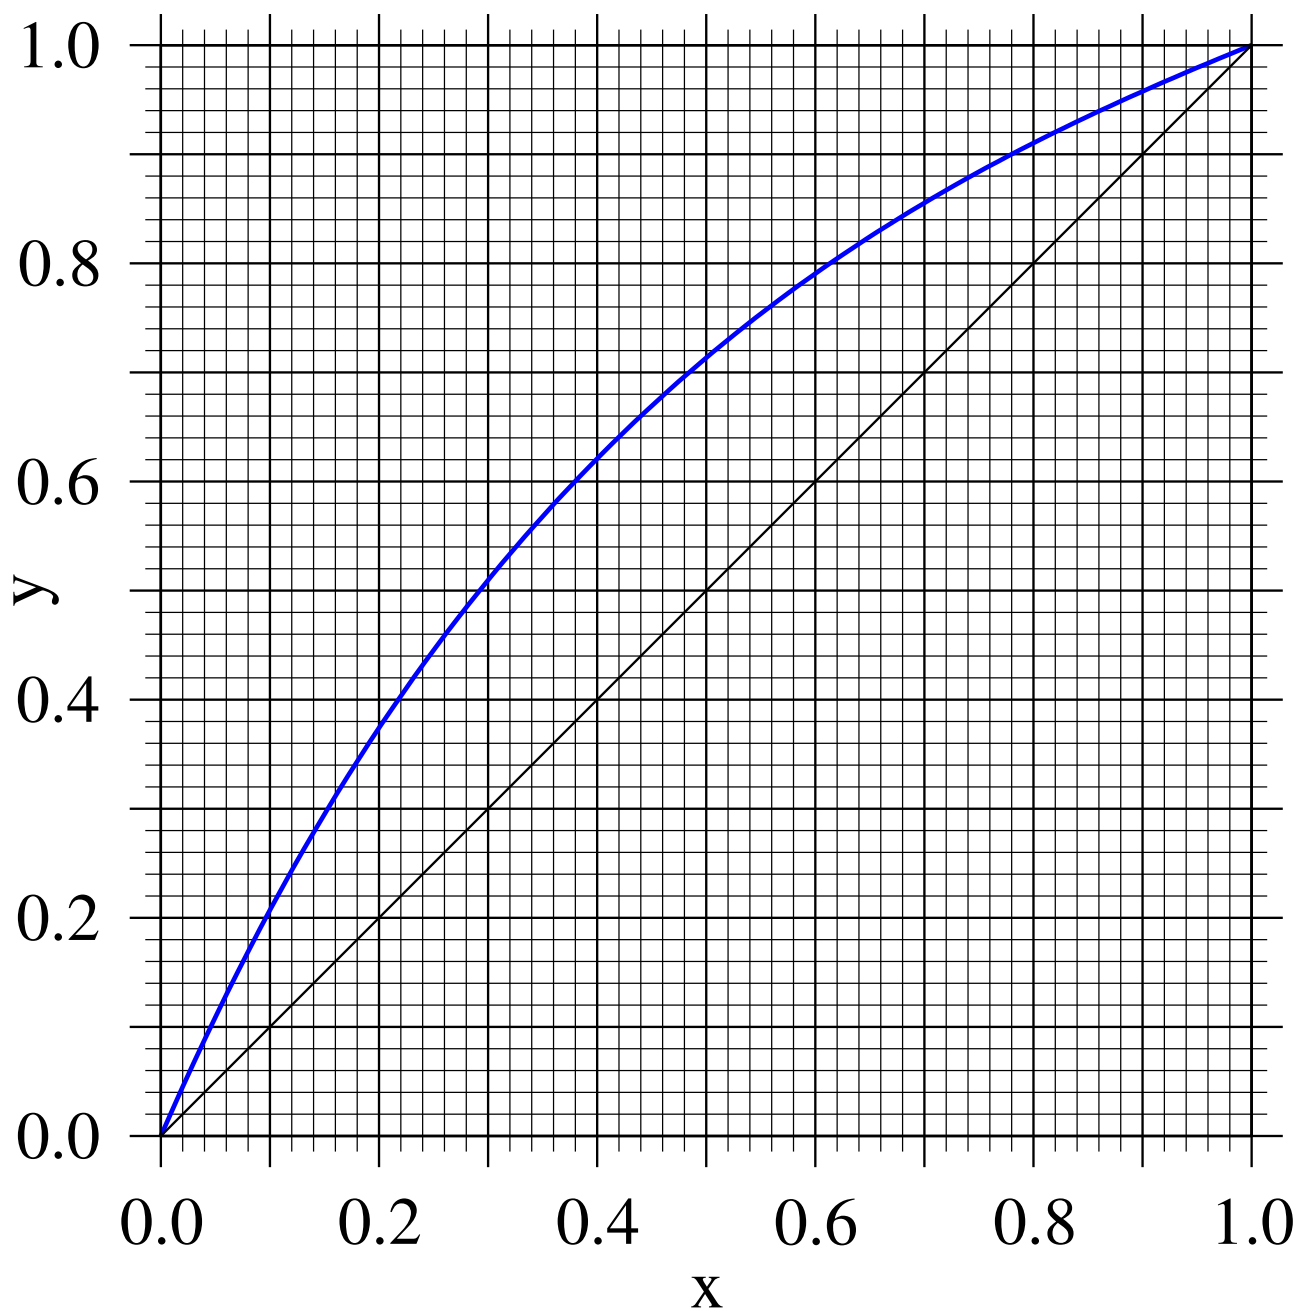
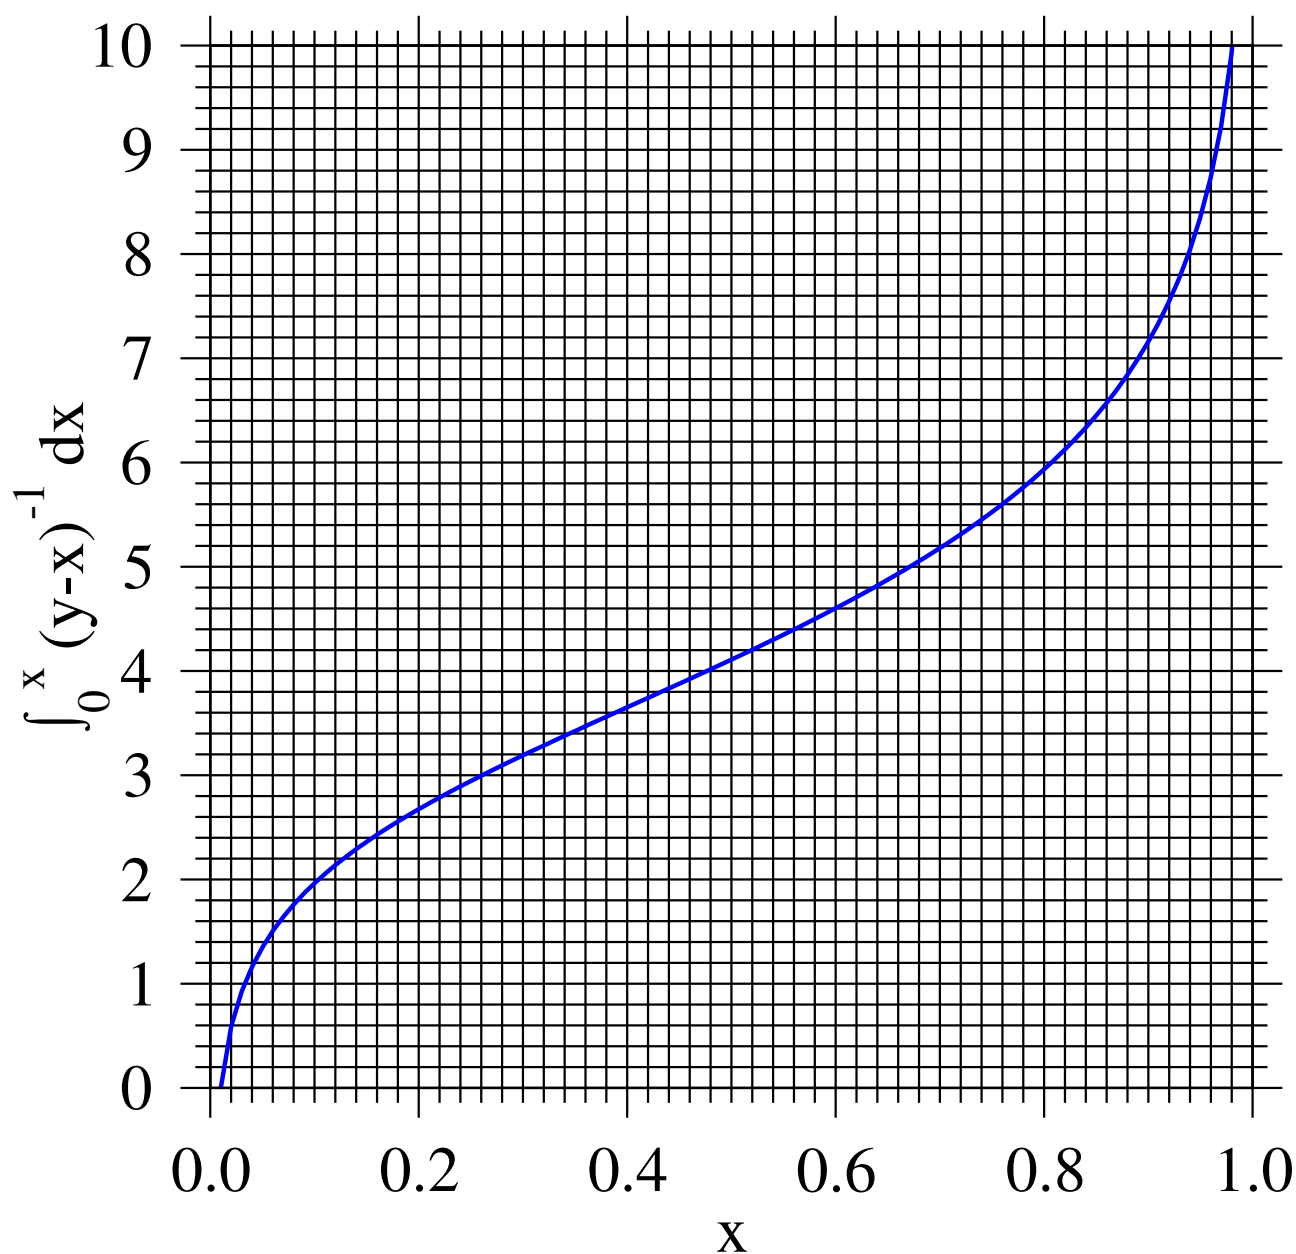

Figure 12: VLE data for benzene(x/y)-toluene mixtures. For use in Q. 19, 20, and 30.
Figure 13: Integrated VLE data for benzene(x/y)-toluene mixtures. For use in Q. 19 and 20.
- What is the outlet concentration of the vapour and liquid streams from a flash drum? The flash drum is operated so that only 20% of the feed stream is vapourised. x - y VLE data is available in Fig. 12. [7 marks]
- What is the average vapour concentration and the final liquid concentration if the same feed is supplied to a single-stage batch still instead? You should assume the same proportion of vapour is produced as in the flash drum. Integrated VLE data is available in Fig. 13 for this calculation. [8 marks]
A 10,000 kmol benzene-toluene mixture is sent for batch distillation at atmospheric pressure. Integrated VLE data is available in Fig. 13 and standard VLE data is available in Fig. 12.
A continuous distillation column is being used to separate benzene from toluene. There are six plates above the feed plate and the column is operated with a reflux ratio of 3. When the feed composition is 40 mol% benzene, the top product has a composition of 97 mol% benzene. VLE data for the system is provided in Fig. 12.